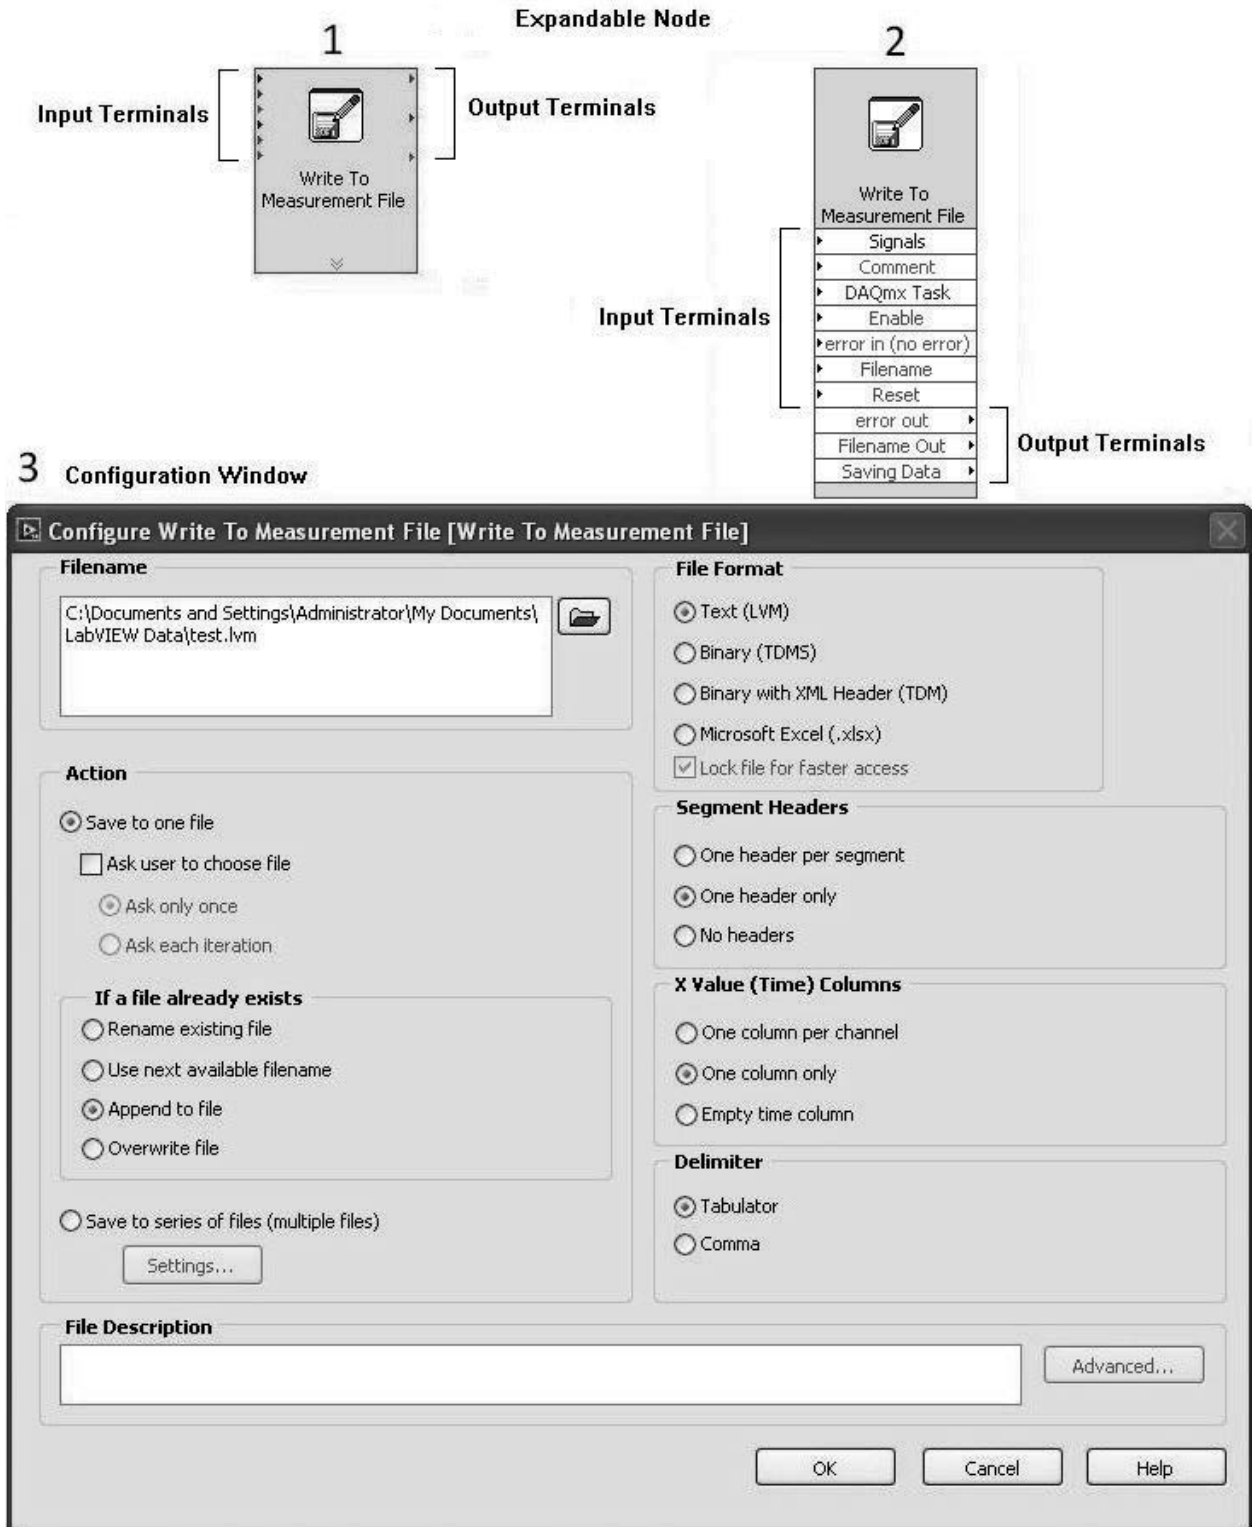

Figure 1.4.6 Write to Measurement File Express VI
This Express VI is an expandable node as are most Express VIs, such as the DAQ Assistant. The VI appears as the icon shown in the first view of Fig. 1.4.6 when placed in the block diagram. The VI may also be expanded by placing the "Position" (arrow) cursor over one of the top or bottom blue "handles" and dragging the handle until the VI appears similar to the second view in Fig. 1.4.6. This has the advantage of making it easier to wire the input and output terminals although at the expense of space in the block diagram.
18. Place the cursor over the “filename” input terminal (it’s the bottom terminal on the left side of the unexpanded node-see view number 1 of Fig. 1.4.6), right-click the mouse, and create a control. The control will appear in the front panel and the corresponding terminal will appear on the block diagram.